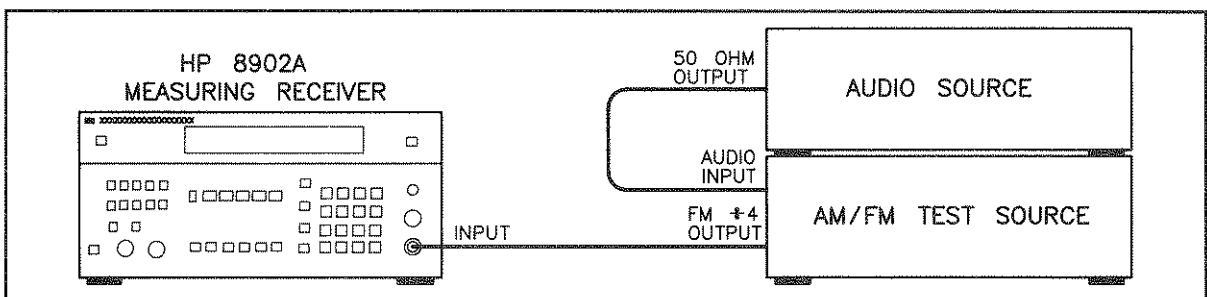

Figure 4-8. Measuring Receiver Incidental AM Verification Test Setup
- a. Connect the FM divide-by-4 output of the AM/FM test source to the input of the measuring receiver and the 50 ohm output of the test oscillator to the audio input of the AM/FM test source, as shown in Figure 4-8.